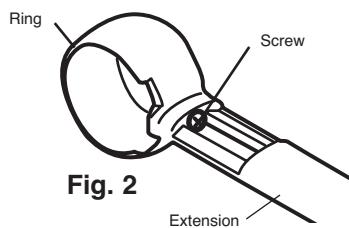

Fig. 2
2. Remove screw and separate bracket extension from ring. (fig. 2). Save screw.